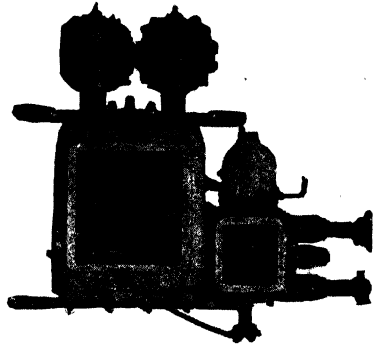

Fig. 31. Top View of National Power Plant for London Steam Omnibuses
**National.** In the National steam omnibuses of London, England, the engines are placed under the floor boards, Fig. 31, and,